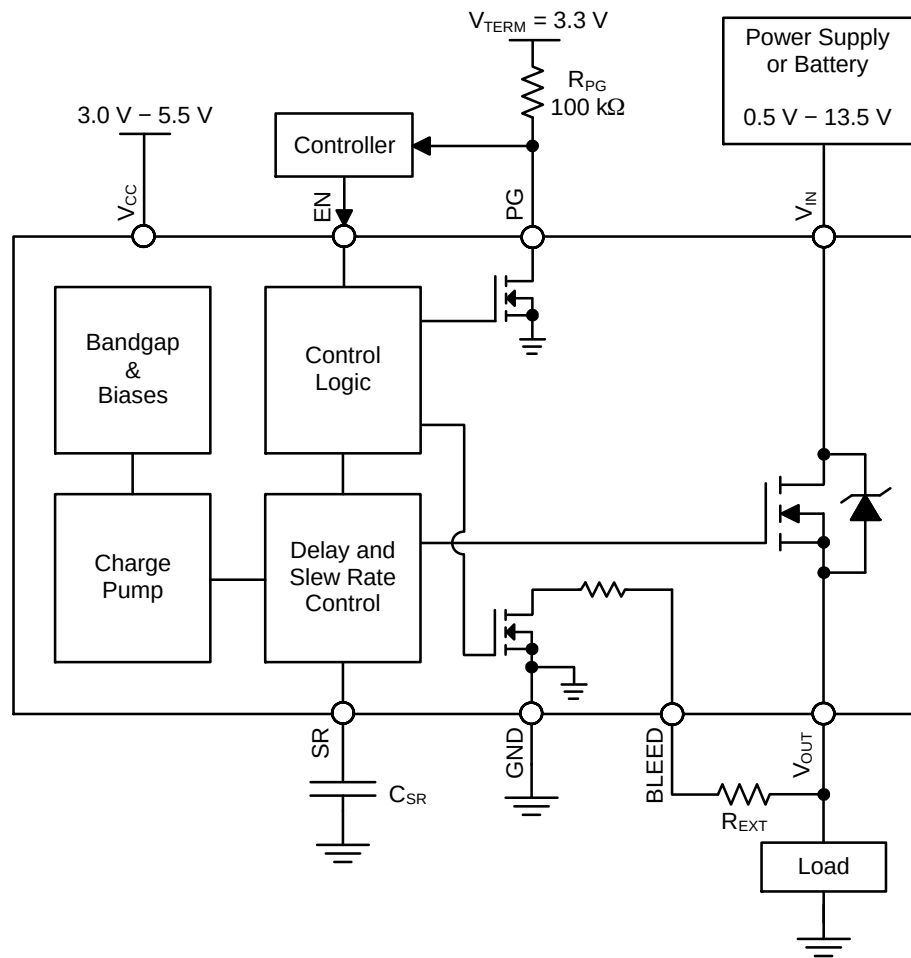
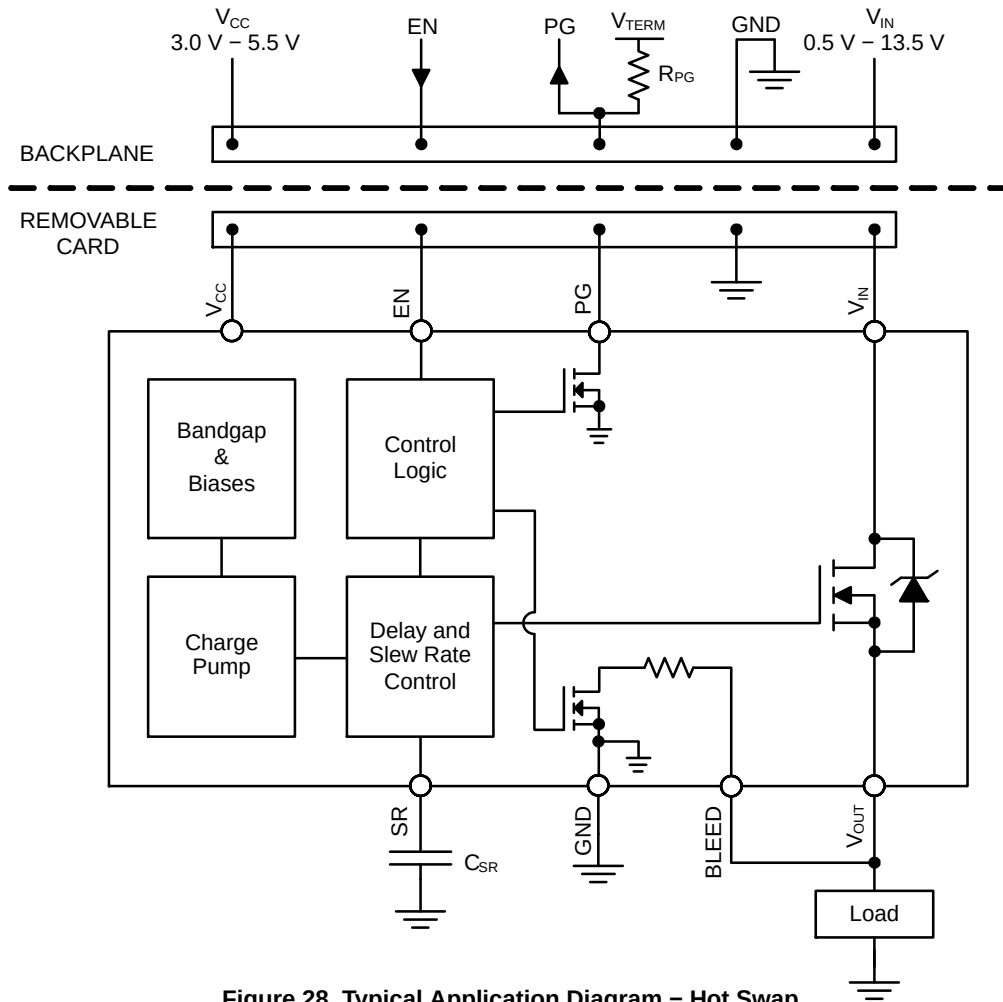

Figure 27. Typical Application Diagram – Load Switch
Figure 28. Typical Application Diagram – Hot Swap
It is required that the BLEED pin be connected to V_{OUT} either directly (as shown in Figure 28) or through an external resistor, R_{EXT} (as shown in Figure 27). R_{EXT} should not exceed 100 M Ω and can be used to increase the total bleed resistance and decrease the load bleed rate.
The NCP45541 devices have a power good output (PG) that can be used to indicate when the gate of the MOSFET is fully charged. The PG pin is an active-high, open-drain output that requires an external pull up resistor, R_{PG} , greater than or equal to 1 k Ω to an external voltage source, V_{TERM} , compatible with input levels of other devices connected to this pin (as shown in Figures 27 and 28).
The slew rate can be decreased with an external capacitor added between the SR pin and ground (as shown in Figures 27 and 28). With an external capacitor present, the slew rate can be determined by the following equation: